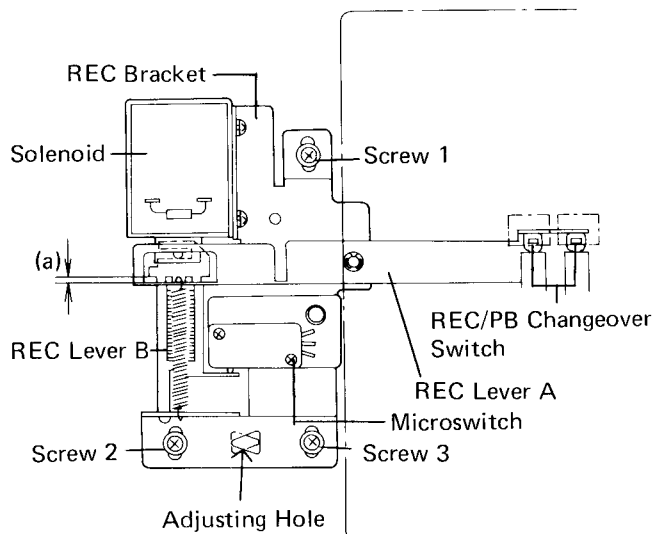

Fig. 13
1. With the unit in the recording state, as shown in Fig.13, the clearance (a) between recording lever A and the shoulder of B should be the same both on the left and on the right, at $0.5 \text{ mm} \pm 0.2 \text{ mm}$. This adjustment is made by slackening screws 1, 2 and 3, and inserting a (-) screwdriver through the adjusting hole. (The REC bracket has some freedom to rotate, and it should be adjusted to give the same value of 'a' on left and right.)